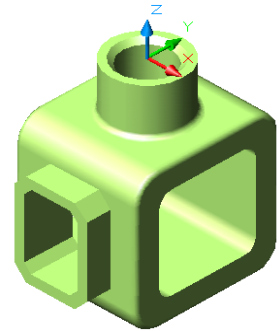

Figure Step 3A
Step 3 On layer: Solid 1, draw a solid model of the object shown in the figures. (Figure Step 3A and 3B)